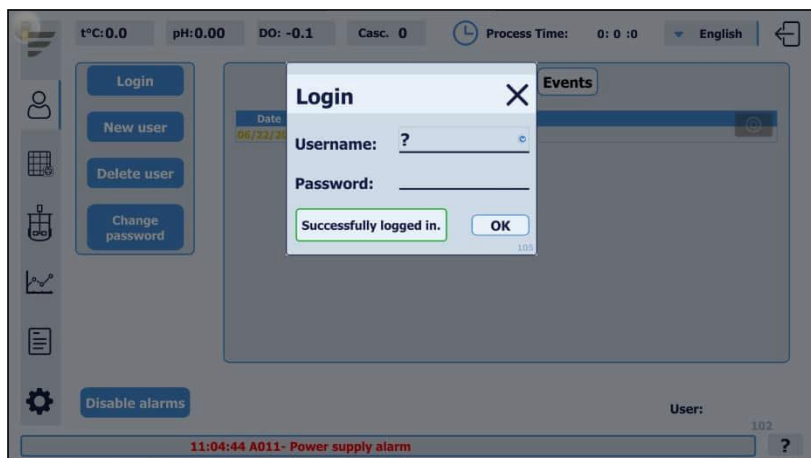
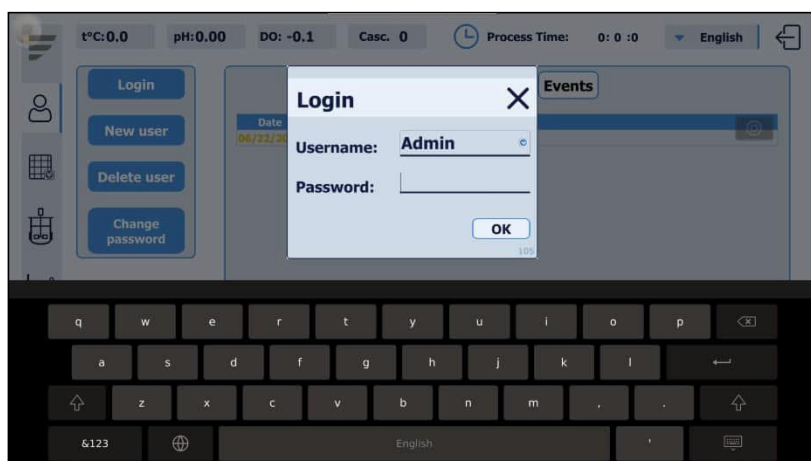

Figure 5.4. Access level window
Figure 5.5. The virtual keyboard
- 4) Choose the desired access level (Viewer, Operator or Administrator) (Figure 5.4), enter the respective password after clicking on the blank space next to the word password (Figure 5.5), press ENTER and LOGIN.